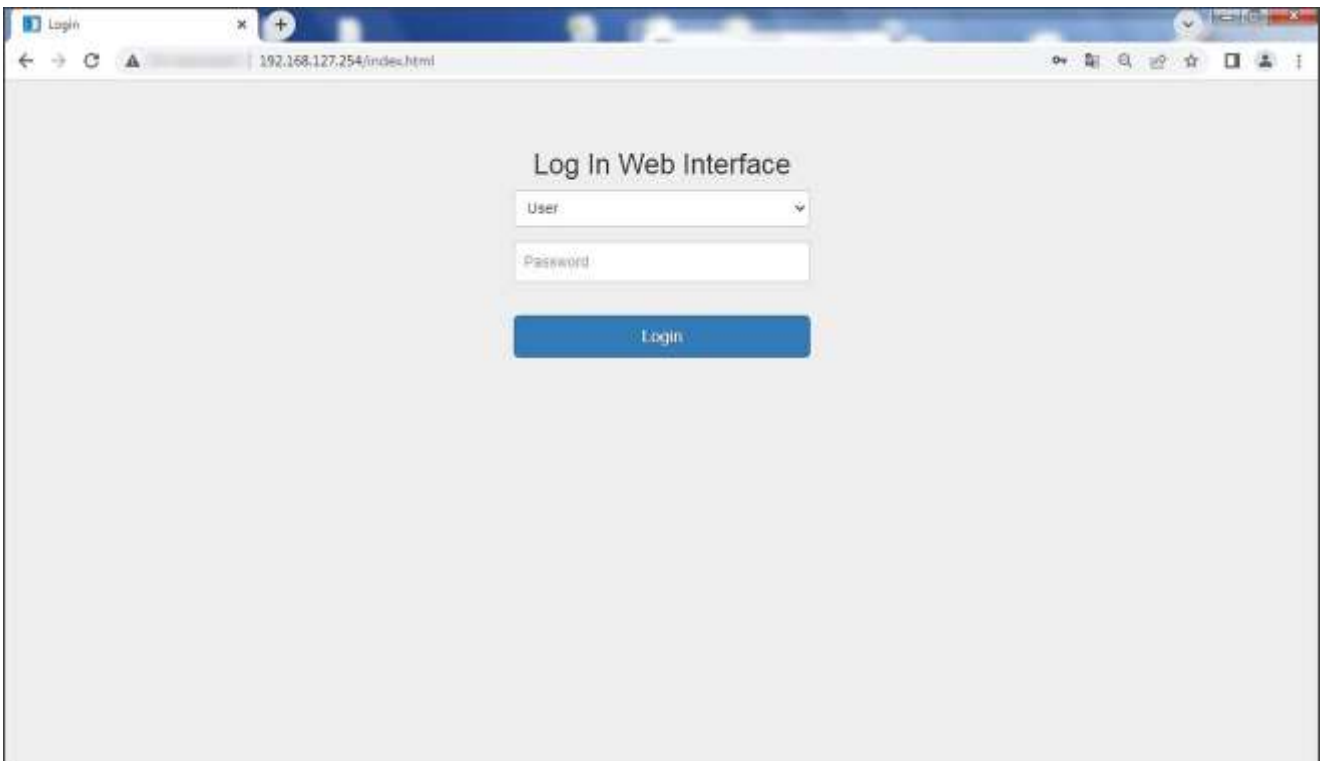

Fig.3. Example of a login form for radio with even serial number (192.168.127.254)
At the loading login form, proceed as follows (Fig.3):
**Note.** The web interface window operates for each radio separately. To configure the wireless channel (sides A and B of wireless radiolink), you will need to open two web interface windows like on Fig.3, one for the radio on side A and a second window for the radio on side B.